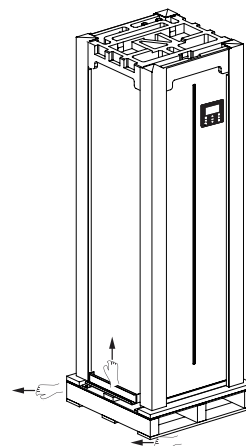

Fig.2-4
- Two people hold the sheet metal lifting machine, the others pull the wooden base (Refer to Fig.2-4).